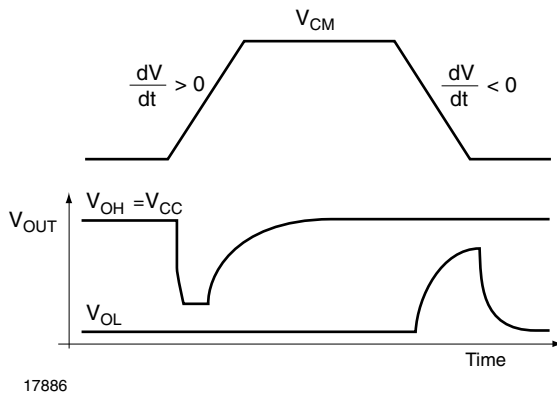

Fig. 10 - Common Mode Signal and the Distorted Output Signal
In the LED on state the above considerations are also valid (equations (5) to (8)). However, as figure 10 indicates, the critical point is now the falling edge of the transient. Also note that a fully saturated transistor improves the CMTI and makes the circuit much more robust to any transients.